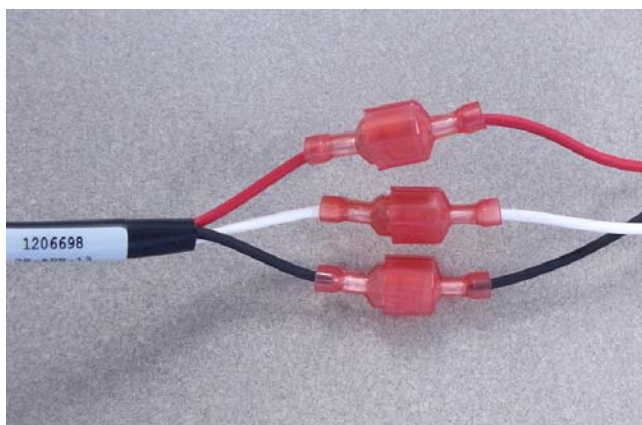

Fig. 10
10. Connect the new potentiometer wire harness to the new wire harness wires (white to 39/white, red to 1B/red and black to 13AA/black) (Figure 10).